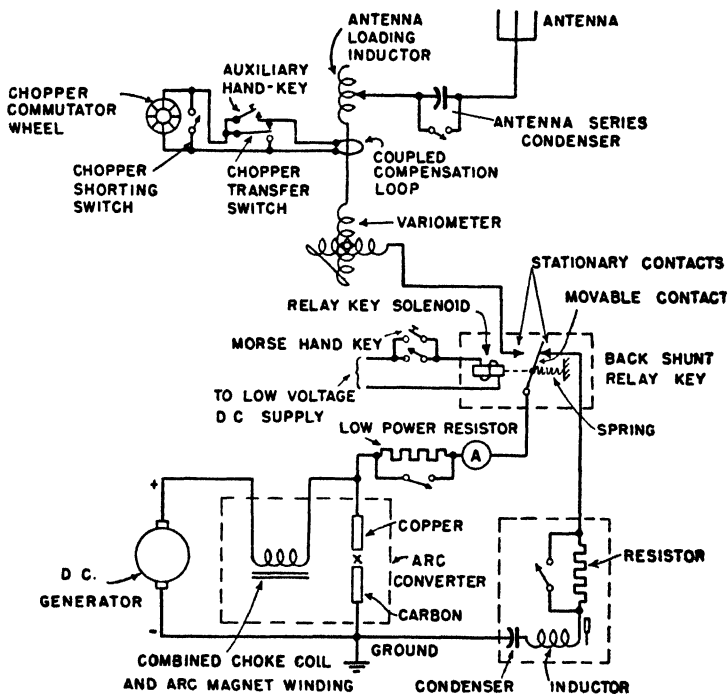

FIG. 6-5.—Arc back-shunt signaling system.
**Ans.** Figure 6-5 illustrates the back-shunt system of arc keying. The back-shunt relay is actuated by a solenoid